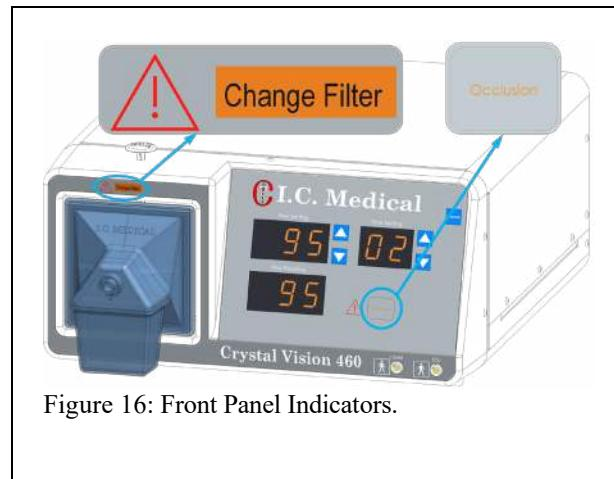

Figure 16: Front Panel Indicators.
8. CHANGE FILTER indicator is located above filter (Figure 16). It illuminates when there is a reduced flow into the CRYSTAL VISION®. The **SAFEGUARD BLUE®** Hydrophobic ULPA Filter with Built-in Fluid Trap should be changed when this light first illuminates. Do not attempt to clean or re-use the **SAFEGUARD BLUE®** Hydrophobic ULPA Filter with Built-in Fluid Trap. Dispose of the **SAFEGUARD BLUE®** Hydrophobic ULPA Filter with Built-in Fluid Trap according to your institution's biological waste protocol. This indicator will also come ON when there is a total occlusion. If the OCCLUSION indicator is also lit, be sure to clear the obstruction that caused it first and then check the CHANGE FILTER indicator. If it is still illuminated and the OCCLUSION indicator is not, then the **SAFEGUARD BLUE®** Hydrophobic ULPA Filter with Built-in Fluid Trap needs to be changed.
9. OCCLUSION indicates that flow into the CRYSTAL VISION® has stopped (Figure 16). The CHANGE FILTER light will also come ON at this time. The operator should check for kinked tubing, stopcocks that are turned OFF, clogged insufflator, use by date Large Coconut Charcoal Output Filter, or a completely clogged or full fluid trap in the **SAFEGUARD BLUE®** Hydrophobic ULPA Filter with Built-in Fluid Trap. In order to prevent pump failure, the CRYSTAL VISION® pump will not activate when this lamp is illuminated.